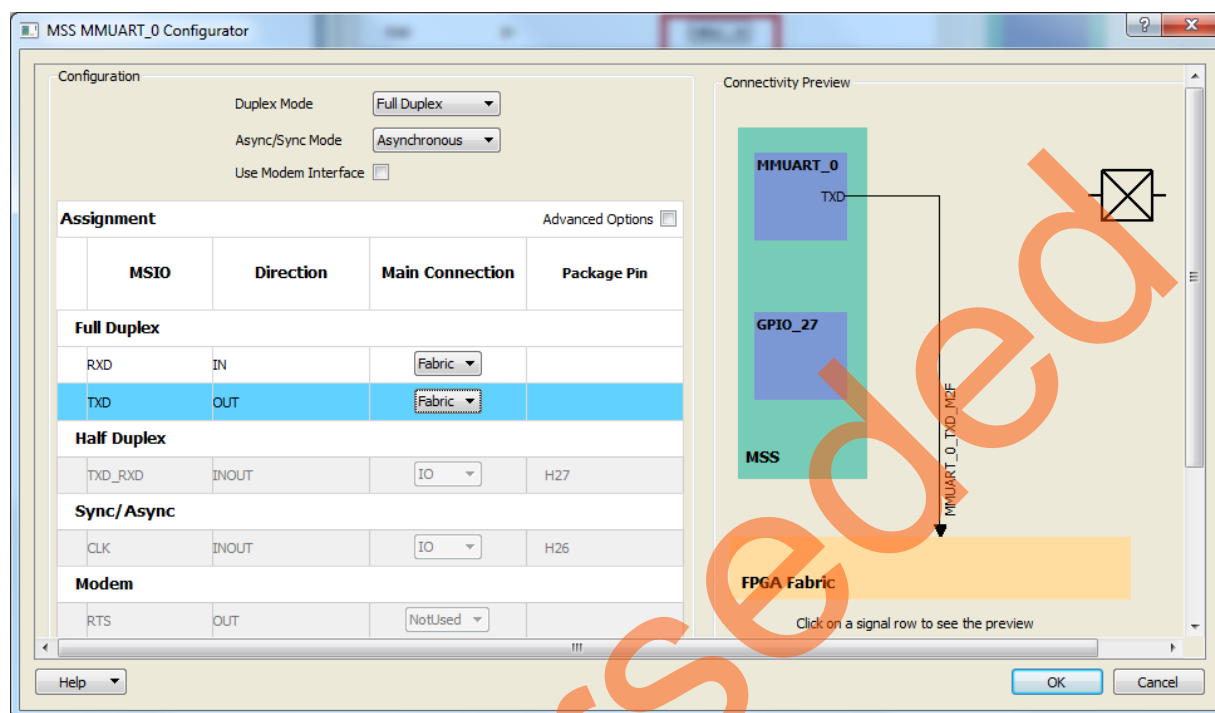

Figure 11 • MMUART_0 Configurator Window
12. Double-click **MMUART_0** and configure it as shown in Figure 11.